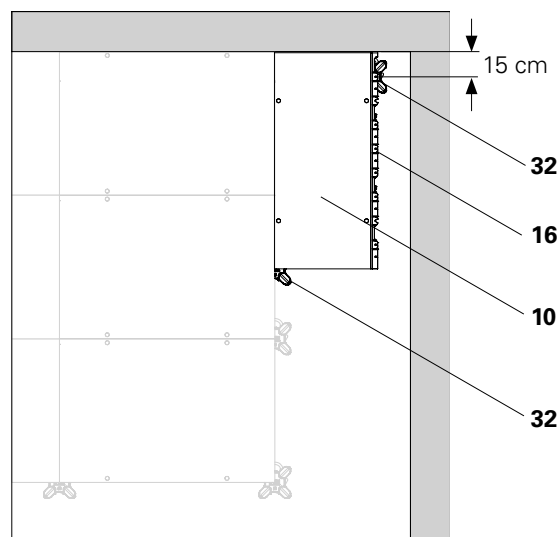

Fig. D3.02a
3. Place the slab prop with DFH prophead (32) across the edge of the panel in an inclined position from the inside and align outwards. The distance from the wall is 15 cm. (Fig. D3.02a)
4. Remove the shuttering aid (37).